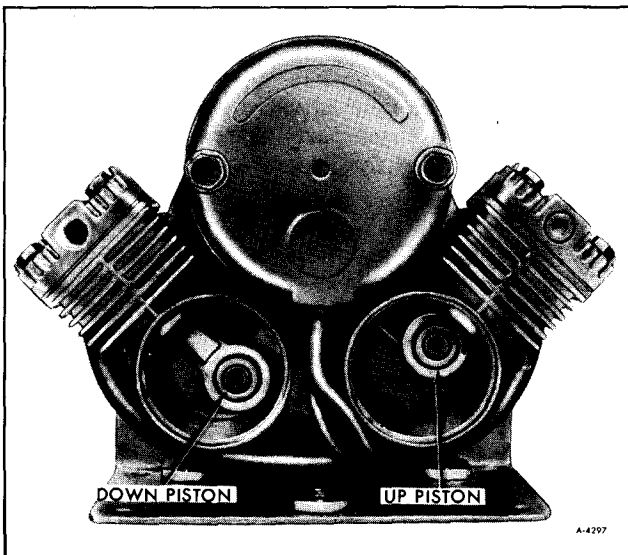

Figure 39—Timing Position
2. Rotate the compressor pulleys to position one piston and rod assembly at the top of its stroke and the other piston and rod assembly at the bottom of its stroke (figure 39).
NOTE: Following installation of belt, check timing of pistons (See figure 39).